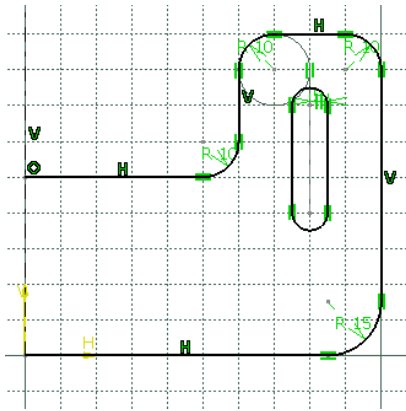

Figure 3-60 The sketch after drawing the elongated hole
- Draw the right half of the sketch using the **Profile** and **Elongated Hole** tools, refer to Figure 3-60.
12. Draw a vertical elongated hole on the right of the sketch using the **Elongated Hole** tool, such that the coordinate value of start and end points are 80,40 and 80,70, respectively. Specify the value of radius as **5** in the **Radius** edit box of the **Sketch tools** toolbar, refer to Figure 3-60.